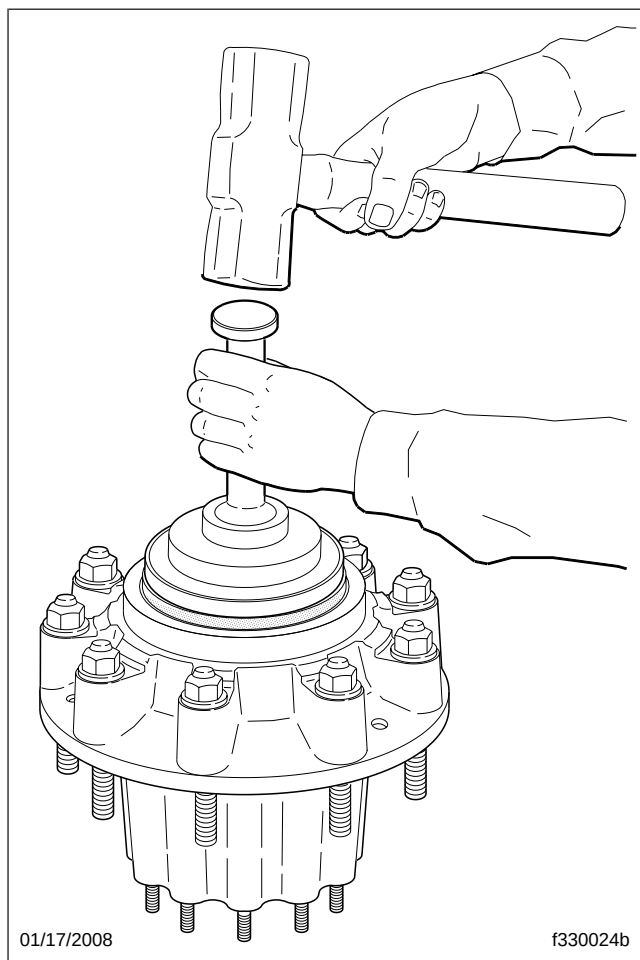

Fig. 6, Striking the Tool
13. To avoid bounce or unseating of the seal, hold the tool handle firmly, and strike it until the seal bottoms out. See Fig. 6.